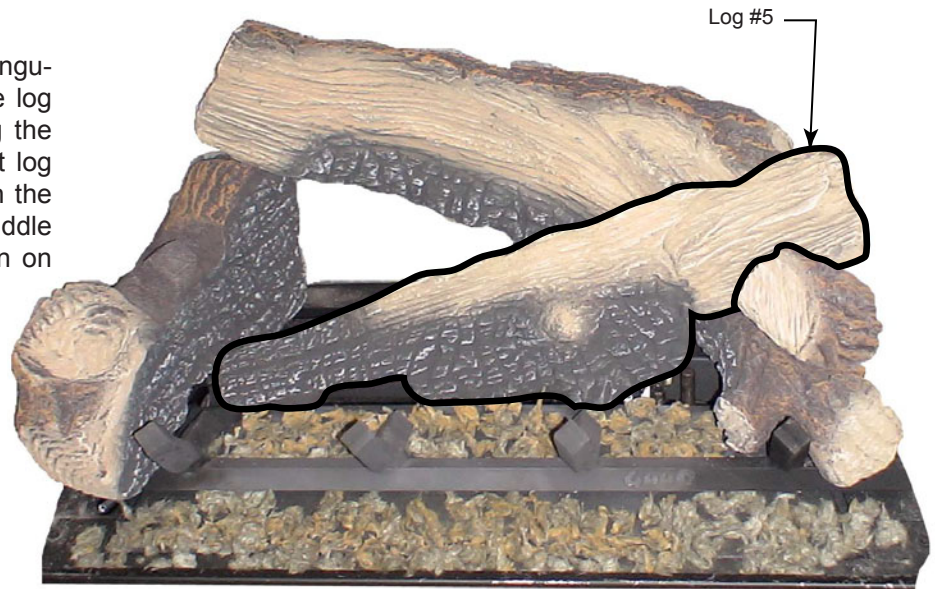

Figure 27
- 7. Install log #5 by placing the rectangular protrusion on the bottom of the log between the burners and pushing the log to the left until it stops against log #1. Place the rectangular notch on the bottom of the right side onto the middle or remaining rectangular protrusion on log #2. *Figure 27*